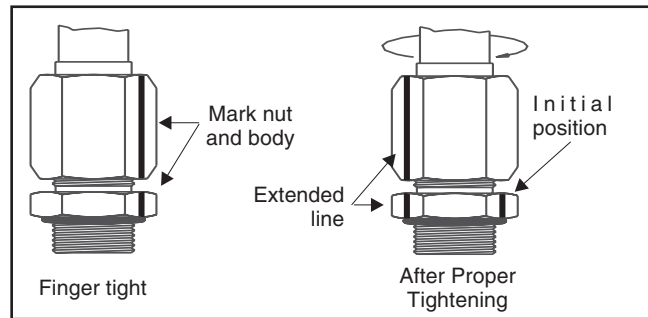

Figure 7.4—Nut Tightened to 2 F.F.T.
2. Mark off nut and body (figure 7.4).
4. Mark off final position (figure 7.4).